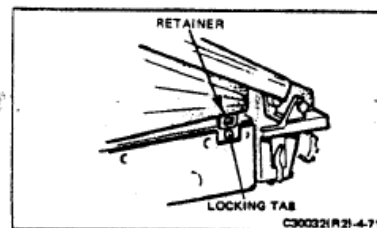
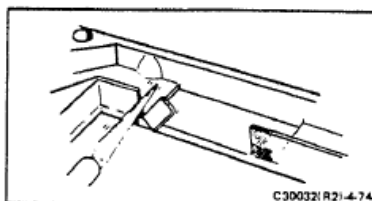

FIGURE 4-71 BOOT RETAINER
FIGURE 4-74 REMOVING "EARS" FROM EARLY INNER FRAMES
- Snap the boot retainer into place by applying finger pressure to the two points indicated on Figure 4-71.
A second area of examination is also necessary when installing a split-image Fresnel. Check the inner frame. On very early camera models, two ears are present on the inner frame (Figure 4-74). If an early model inner frame, use an Xacto knife to cut these ears off as shown in Figure 4-71.